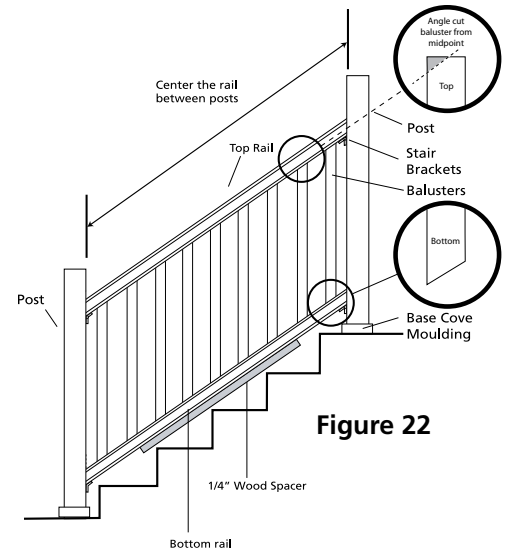

Figure 22
12. Lay the bottom rail, with the routed holes upward, onto a 1/4" wood spacer located between the posts (Fig 22). This provides the rail spacing between the rail and stair treads and helps to stabilize the setup.
18. Mark the stair angle on one end of each baluster to be used (Fig 22).
19. Cut the stair angle on one end of each baluster, cut the stair angle on half of the other end (Fig 22).
20. Fully insert the non-angled ends of the balusters into the routed holes of the top rail. The angled cut of the baluster should be parallel with the length of the top rail. (Fig 22).